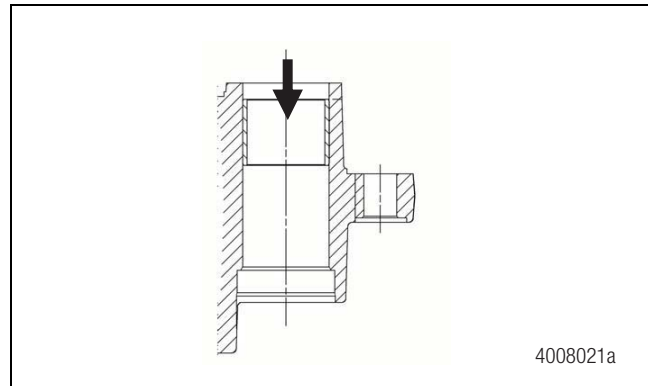

Figure 6.37
- Insert the bushing into the housing bore from the slide pin boot retainer side of the bore. Figure 6.37.